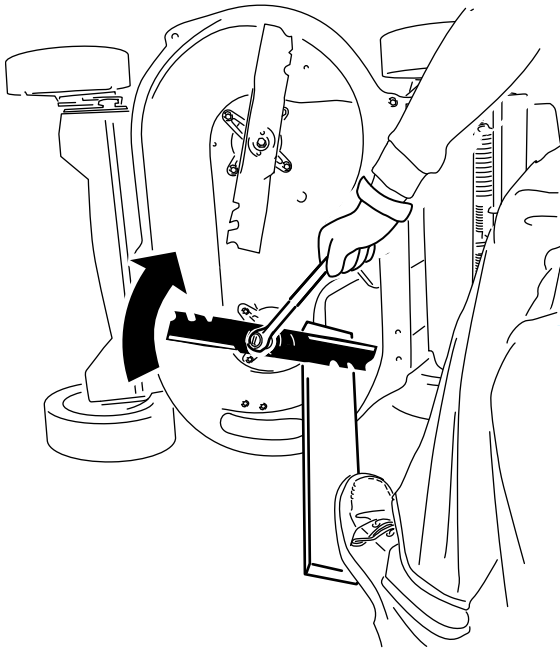

Figure 37
2. Steady each blade with a board and turn the blade bolt clockwise with a torque wrench as shown in Figure 37; torque each blade bolt to 82 N·m (60 ft-lb).